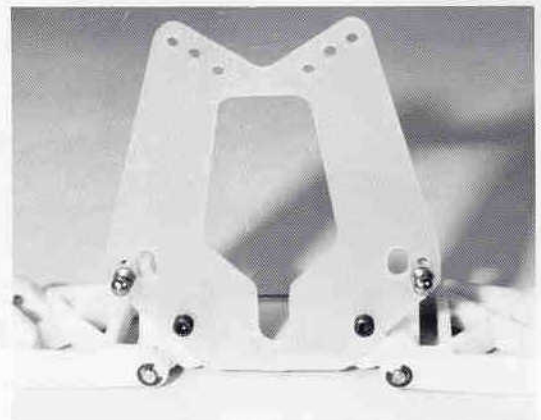
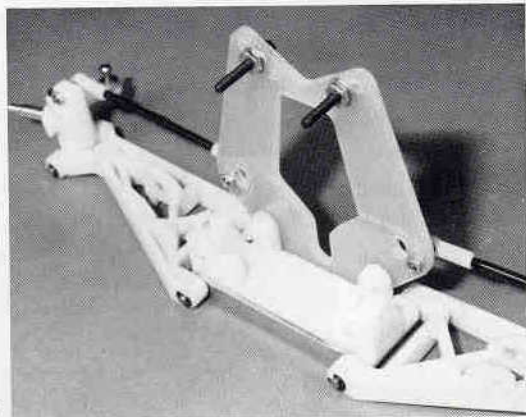

Fig. 15
Fig. 16
ends are on the back side facing away from the bulkhead (see fig. 15).
(5) Open bag #7-10 (the front shock bag) and remove two each #6927 4-40 x 3/4" SHCScrews, #6295 4-40 plain nuts, and #6936 #4 aluminum flat washers. (6) Install and tighten the #6927 screws in the upper middle hole (if a 3 hole strut; otherwise outside hole if a 2 hole strut) at the top of the front shock strut (see fig. 15). You need to install the screws from the back side so the screw heads are on the same side as the ball ends. (7) Now place a #6936 flat washer over the threads of each screw. (8) Next install and tighten a #6295 nut onto the threads of each screw as shown (see fig. 16). If everything is installed correctly the threads will be on the front side of the shock strut over the front bulkhead.